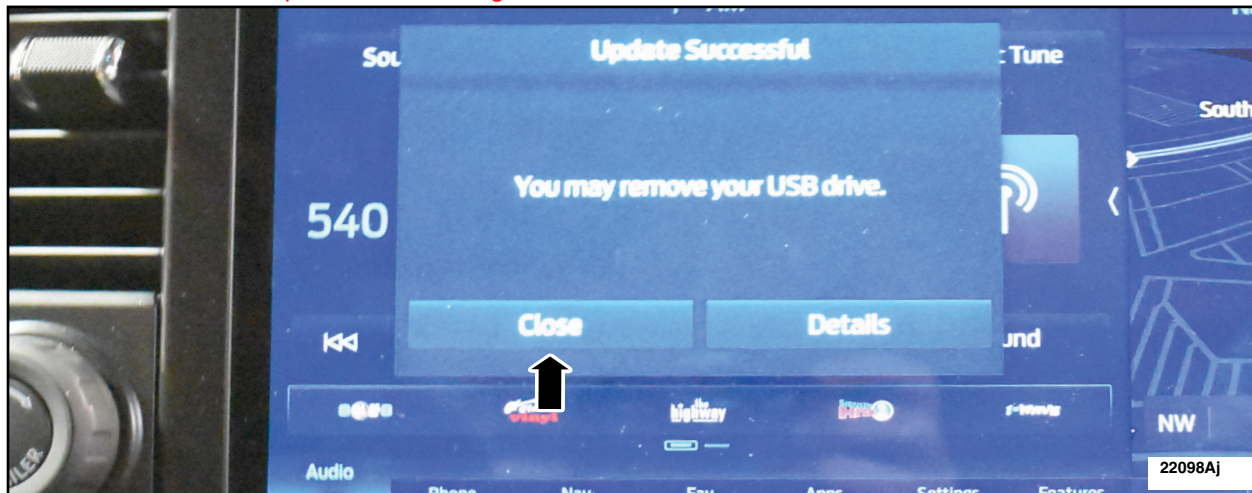

FIGURE 19
20. Restart the vehicle. **Only remove the USB stick from the vehicle when the update successful message appears.** See Figure 19.